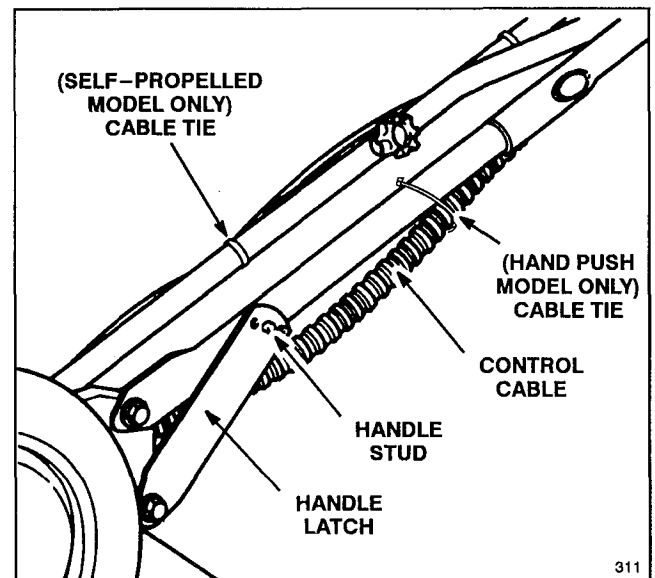

Figure 2
INSTALL HANDLE (Fig. 2)
2. The left handle knob is shipped from the factory on the outside of the handle (Fig. 1). Remove the left knob and bolt. Reinstall knob and bolt on inside of handle (Fig. 2). Both handle knobs should be positioned on the inside of the handles. Tighten handle knobs.
3. Move handle latches slightly outward so they will not be in the way when pivoting the handle backward into the operating position (Fig. 2).
4. Pivot handle backward. Move handle latches inward while snapping handle stud into center hole of handle latch (Fig. 2). If a handle latch does not fit tightly against the handle tube, remove latch from handle stud, bend the latch inward, and reattach to handle stud. Repeat as necessary to ensure a tight fit between latch and handle. Make sure handle knobs are securely tightened.
Note: If handle height is not satisfactory, adjust by placing handle stud (Fig. 2) into a different hole. Tighten handle knobs.
5. Ensure control cables (Fig. 2) are to the rear and inside of handles. Secure cables to handle with cable ties as shown in Figure 2.